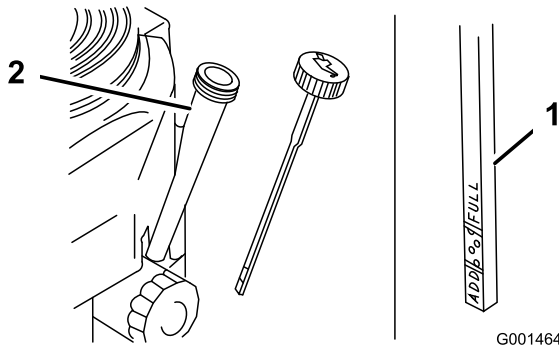

Figure 27
4. Clean around the oil dipstick (Figure 27) so that dirt cannot fall into the filler hole and damage the engine.
5. Unscrew the oil dipstick and wipe the end clean (Figure 27).
6. Slide the oil dipstick fully into the filler tube, but do not thread it onto the tube (Figure 27).
8. Slowly pour approximately 80% of the specified oil into the filler tube (Figure 27).